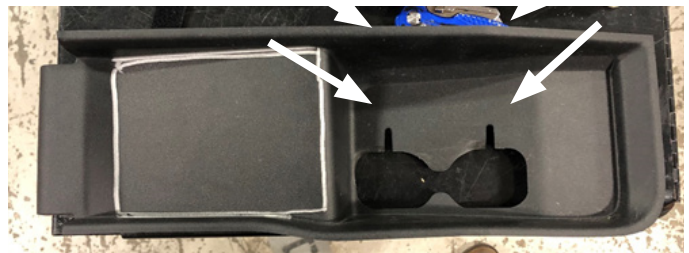

Figure 7
7. Take the OEM plastic sensor/tow hook cover and cut out the upper portion shown below. This will be used to cover the sensor in your new bumper. (Figure 7)